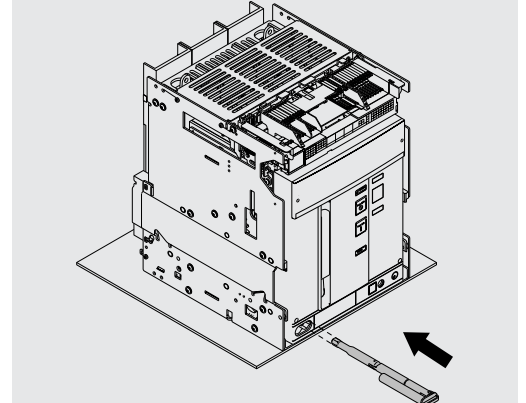

Figure 98
13. Replace the crank in its housing See Figure 98.